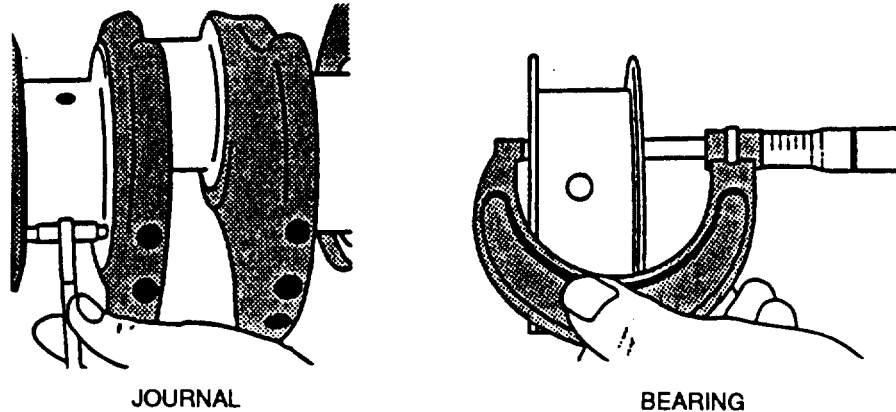

FIGURE 3-120. Measuring Main Thrust Journal and Thrust Bearing Width
- (5) Use crankshaft journal OD measurements to determine if journal is out-of-round or tapered. Journal out-of-roundness wear limit is 0.003 inch (0.08 mm). Journal taper-per-inch of journal length wear limit is 0.0001 inch (0.025 mm)
- (6) If journals are tapered, out-of-round, scored, or damaged, crankshaft should be ground. Refer to paragraph 3-44.3. Proper undersize bearings should be installed after grinding.
- e. Measure main thrust journal width and thrust bearing width, refer to FIGURE 3-120, as follows:
- (1) Measure width of main thrust journal with an inside micrometer.
- (2) New main thrust journal width is 1.531 to 1.535 inches (38.90 to 39.00 mm).
- (3) If width is not within specification, recondition crankshaft and install an oversize thrust washer set. If width is correct, measure main thrust bearing width.